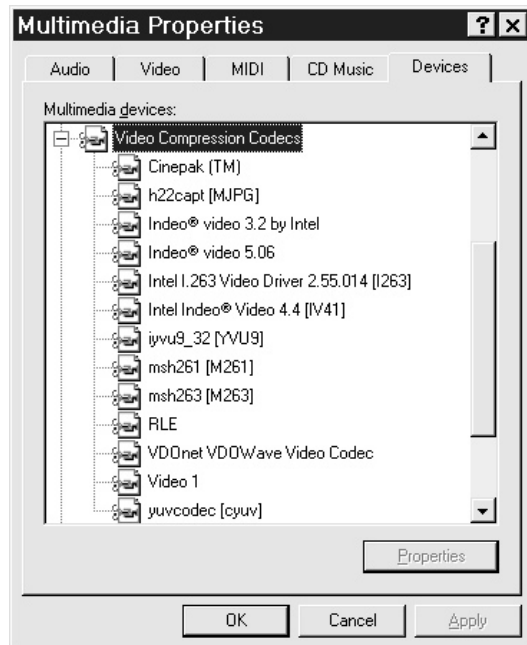

FIGURE 47-5 Checking for Video Compression Codecs under the Multimedia icon
- 4 Double-click on “Video Compression Codecs” (Figure 47-5).